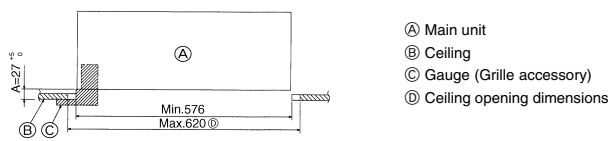

Fig. 4-6
3. When the main unit can not be aligned against the mounting plate on the ceiling, it is adjustable owing to a slot provided on the mounting plate. (Fig. 4-6)